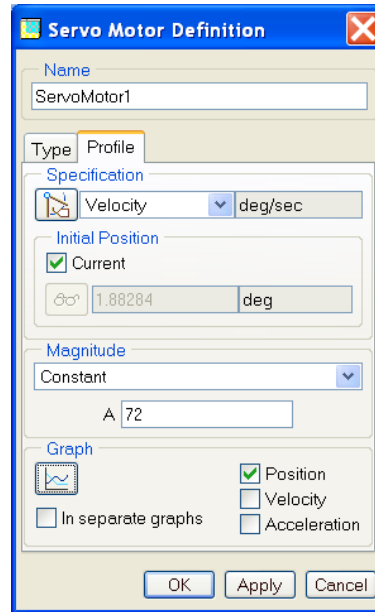

Figure 3b
- d) On the **Profile** tab, change the **Specification** to **Velocity** as shown in figure 3b.
- e) The **Magnitude** should be **Constant**. Enter the value **72** for A as shown in figure 3b.